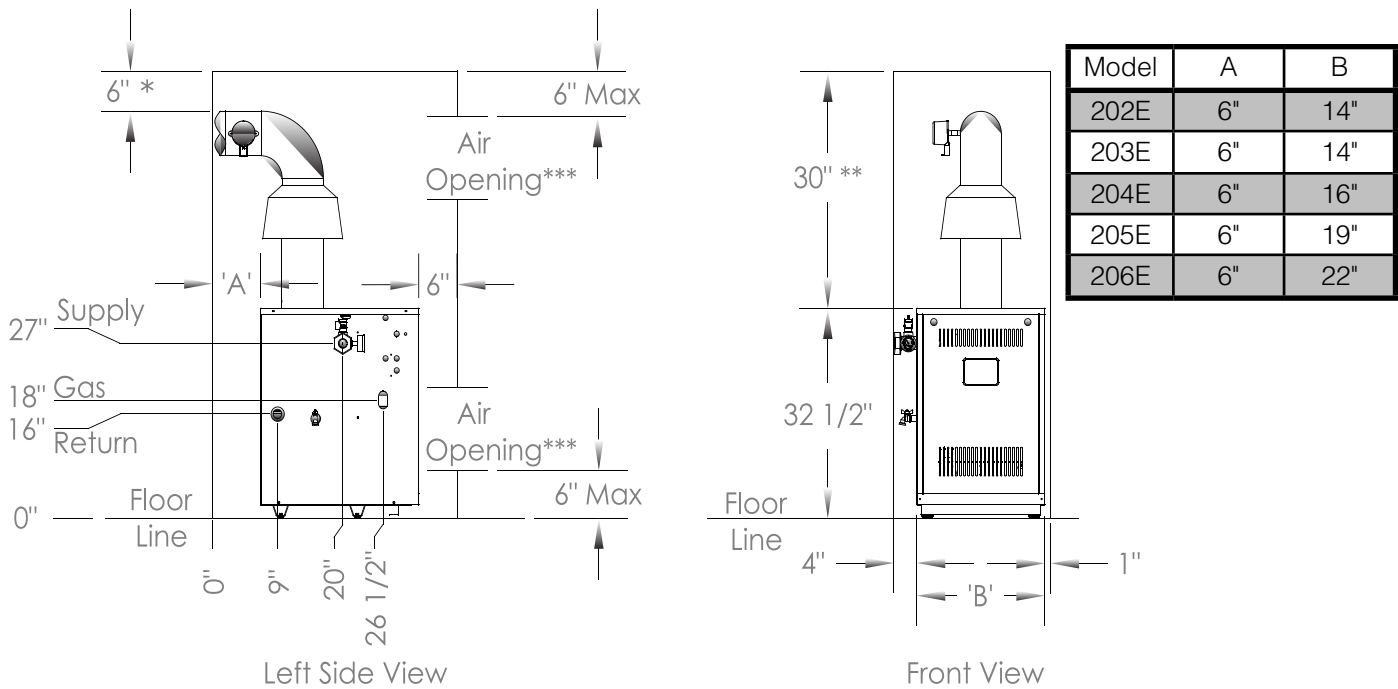
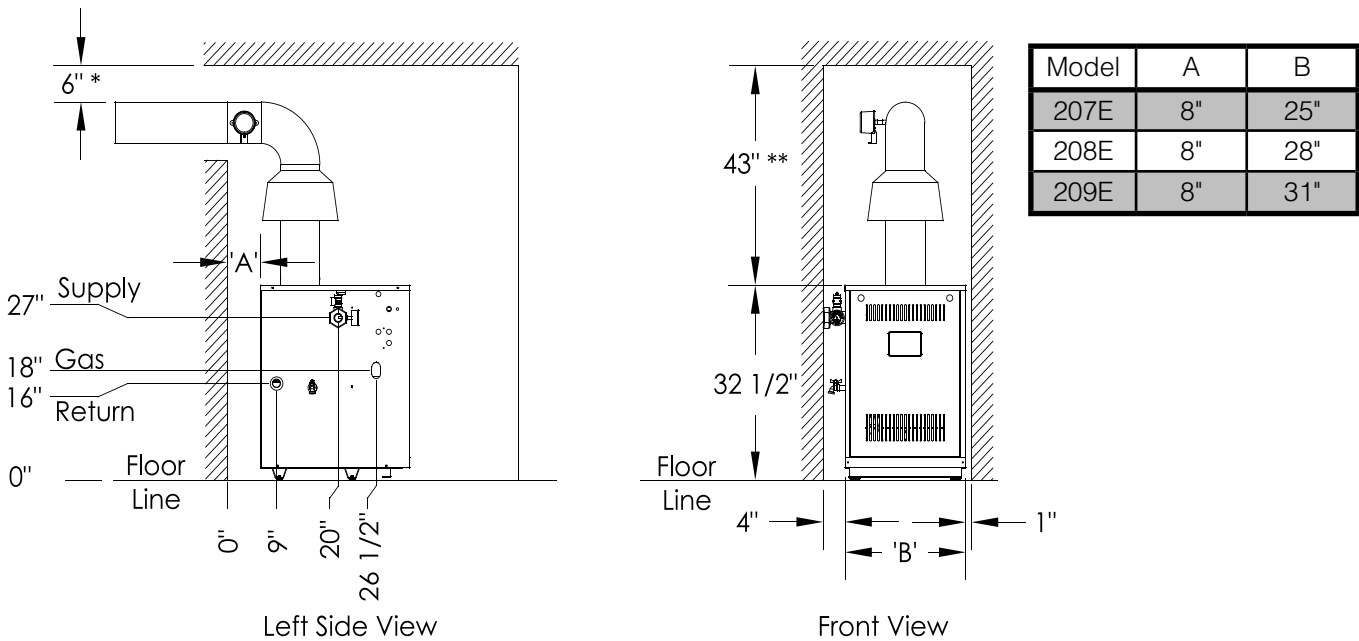

Figure 4-1: Minimum Closet Clearances
Figure 4-2: Minimum Alcove Clearances
- B. Inspect shipment carefully for signs of damage. Any claim for damage or shortage in shipment must be filed immediately against carrier by consignee. No claims for variances or shortages will be allowed by Boiler Manufacturer, unless presented within sixty (60) days after receipt of equipment.
- E. Provide clearance between boiler jacket and combustible material in accordance with authority having jurisdiction. Minimum clearances outlined in Figure 4-1 (Closet Installations) or Figure 4-2 (Alcove Installations).
1. Minimum clearances to combustibile materials are shown in Figure 4-1 and Figures 4-2.
Models 202E, 203E, 204E, 205E & 206E are listed for closet installation. See Figure 4-1.
Models 207E, 208E & 209E are listed for Alcove installation. See Figure 4-2.